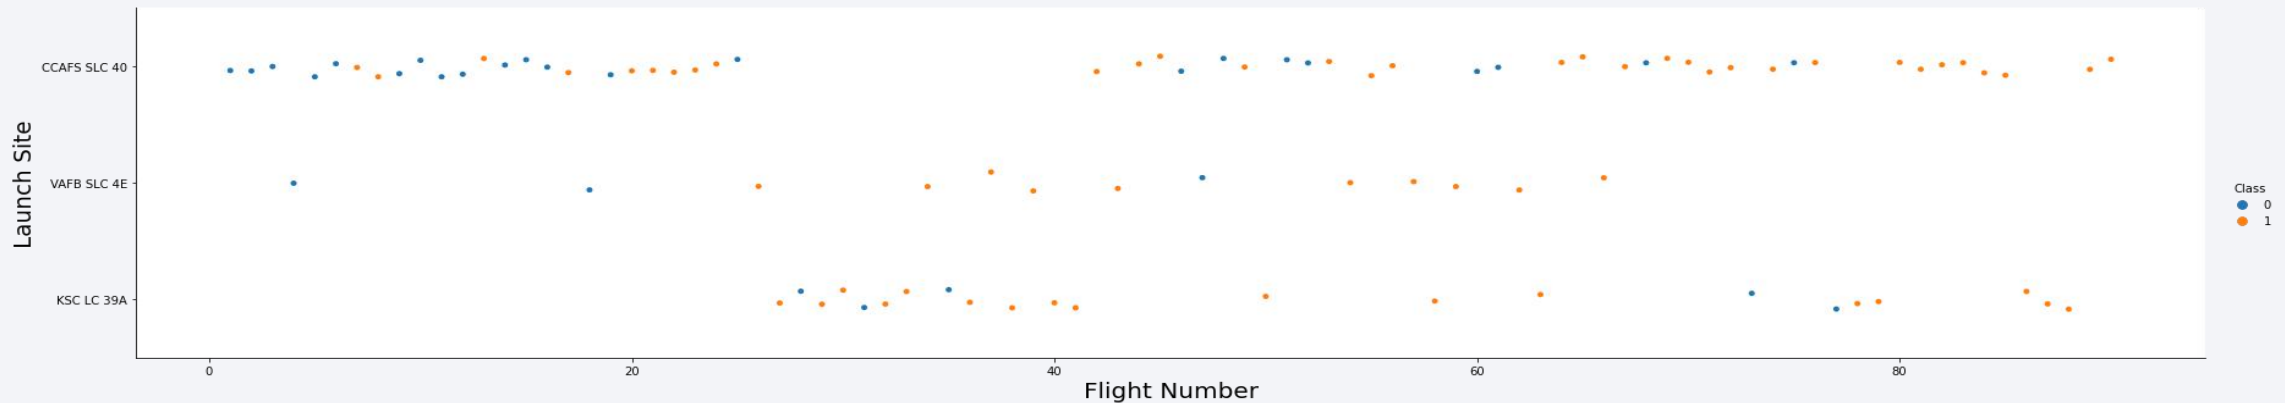

Fig3. Scatter Plot between Flight Number with Launch Site
- According to Fig3., we can conclude that KSC LC-39A have most flight number between 25 to 40 flight numbers, also the chance that the landing is success when launched at this site is considered to be high.